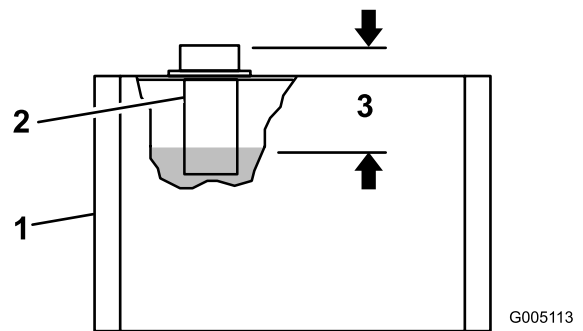

Figure 20
2. Remove the cap from the top of the reservoir and check the fluid level. The fluid should be approximately 3-1/2 in. (89 mm) below the top of the fill hole (Figure 20).